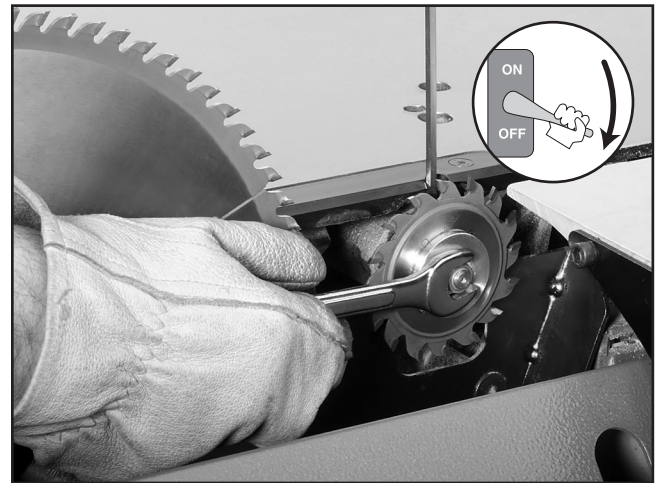

Figure 39. Installing the scoring blade.
6. Place a hex wrench in the hole in the arbor and use the arbor wrench to tighten the arbor nut as shown in **Figure 39**.